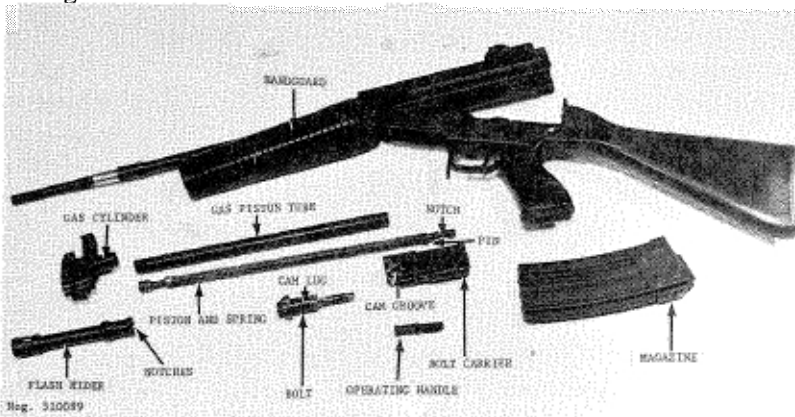

Figure 100. Beretta M70/.223 disassembled.
a. Clear the rifle (without moving the safety off safe), press the trigger, or insert the magazine. Press out the takedown pin (fig 97) from left to right and swing open the receiver (fig 100). Pull the operating handle retainer (fig 98) to the rear with the point of a bullet and pull out the operating handle. Hold a hand behind the receiver opening and point the muzzle upward; the bolt unit will emerge from the rear of the receiver. If necessary, partially engage the operating handle with its hole in the bolt carrier and pull the bolt unit to the rear until it can be removed. Pull the bolt (fig 100) forward in the carrier (fig 100), twisting the bolt at the same time until it comes out of the carrier.
b. In the front of the gas cylinder is a small plunger that seats in the notches of the flash hider (fig 100). Push the plunger in and unscrew the flash hider (right-hand thread). Pull the gas cylinder (fig 100) forward, off the barrel, and pull the gas piston tube (fig 100) forward and remove it. Push the piston (fig 100) rearward slightly, against the pressure of its spring, until the piston can be rotated. Ease the piston forward, then rotate it until it comes free.
c. The handguard (fig 100) can be removed by pulling down on its front end until it comes off the barrel. Rotate the handguard down until it can be removed.
f. Insert the piston into the receiver. The small pin (fig 100) must be aligned with its slot in order to enter the receiver. Once in the receiver, rotate the piston so that the notch for the operating handle (fig 100) faces down and the pin seats in its recess to prevent rotation of the piston. Slip the piston tube over the piston and seat it in the receiver.